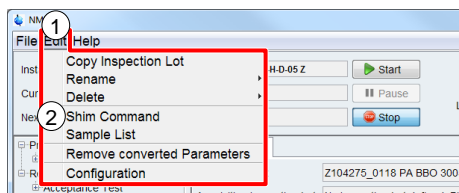

Figure 5-29: Shim Command list in menu
On the **Edit** menu shown in Figure 5-29 (1), click **Shim Command** (2) to open Shim Command list dialog.